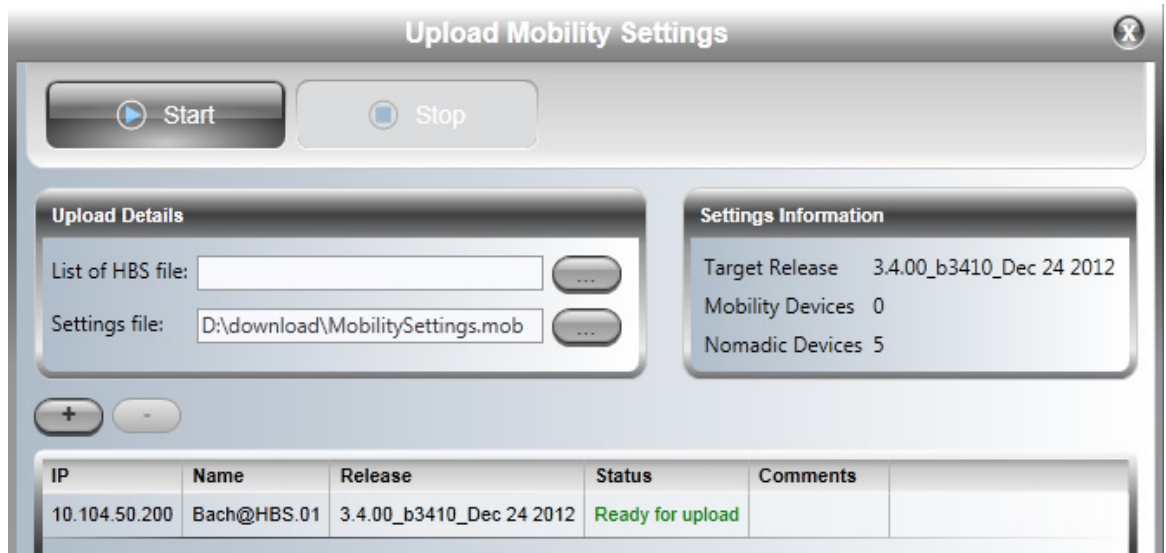

Figure 3-7: Preparing to upload the Nomadic file
1. In the window of Figure 3-7, enter a HBS list file. The format of the file is lines of